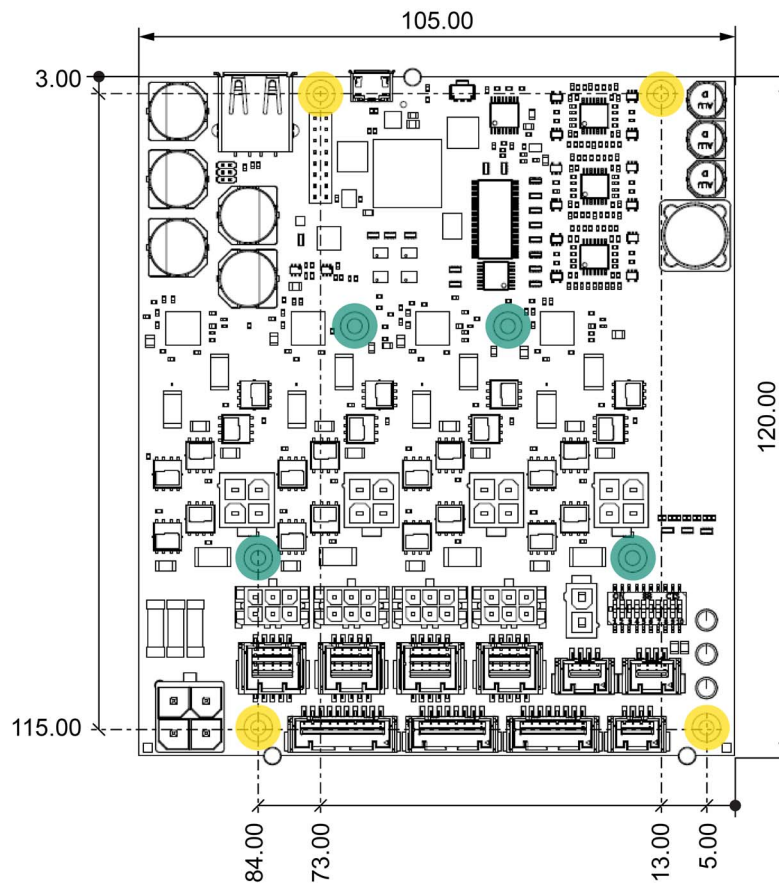

Figure 3-5 Mounting holes
You must insure that all eight (8ea) mounting holes (→Figure 3-5; green and yellow marked) are fully connected to earth.
- 2) Drill 8ea holes/threads as to the actual design of your application's structure. For the drilling pattern see →Figure 3-5.
Mounting screws	4ea M2.5 screws and 4ea M2.5 screws/nuts that fit the spacers (for drilling pattern see →Figure 3-5)